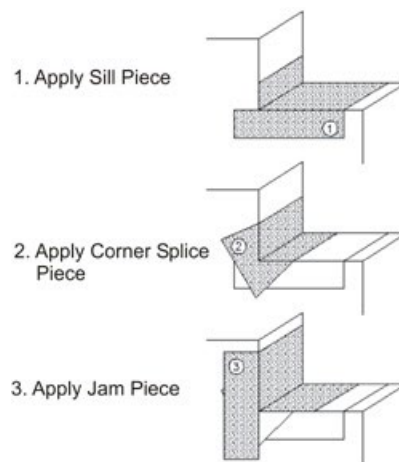

Fig. 9
- 1) Apply the Dryvit Flashing Tape as shown in the detail below - Figure 9.